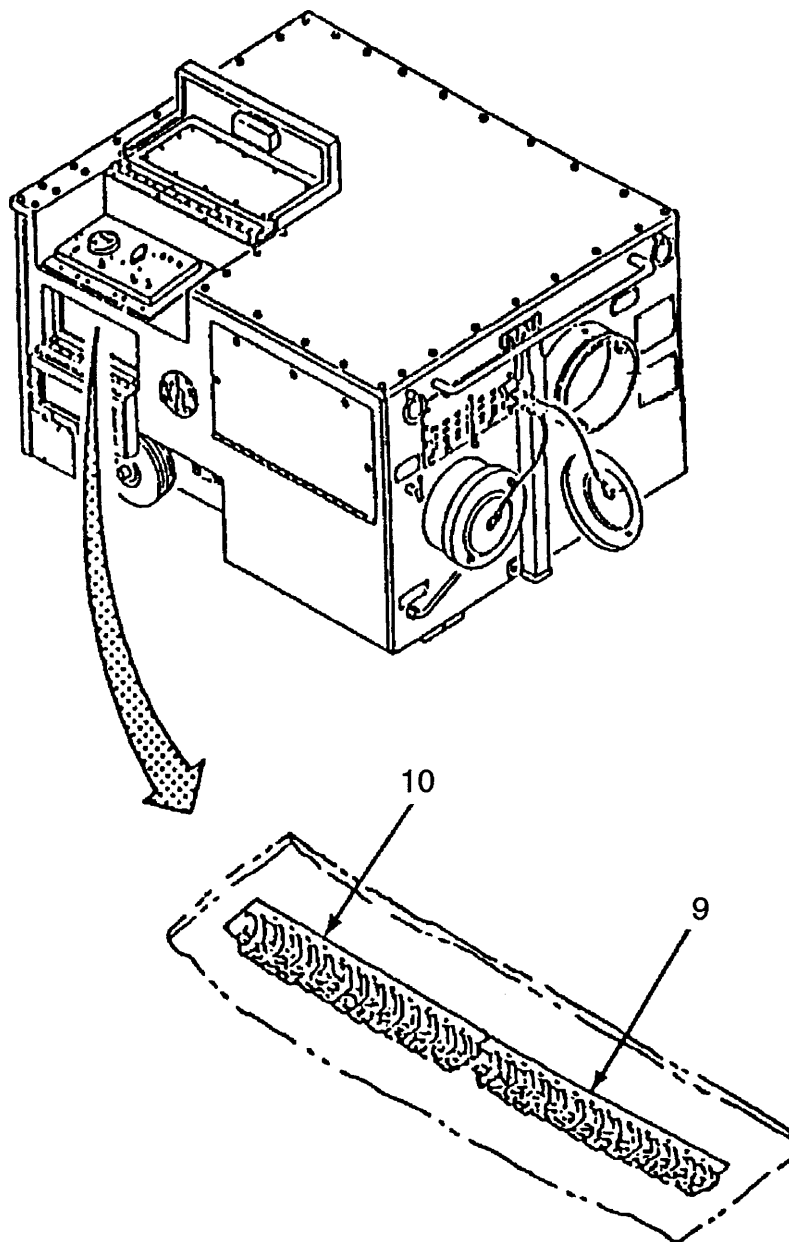

Figure 4-31. Control Box Assembly Terminal Boards/Transformer (Sheet 2 of 3)
c. Assembly - continued (Refer to Figure 4-31)
- (8) Install transformer (16), two screws (17), two lockwashers (18) and two nuts (19).
- (9) Connect wire TR2-R/TB3-3 (20) and TR2-C/S1-13 (21).
- (10) Connect the black wire (22) to wire S1-12 (23) and the white wire (24) to wire TB1-7 (25) with two terminal splices (26).
- (11) Close rightside rear door (27).